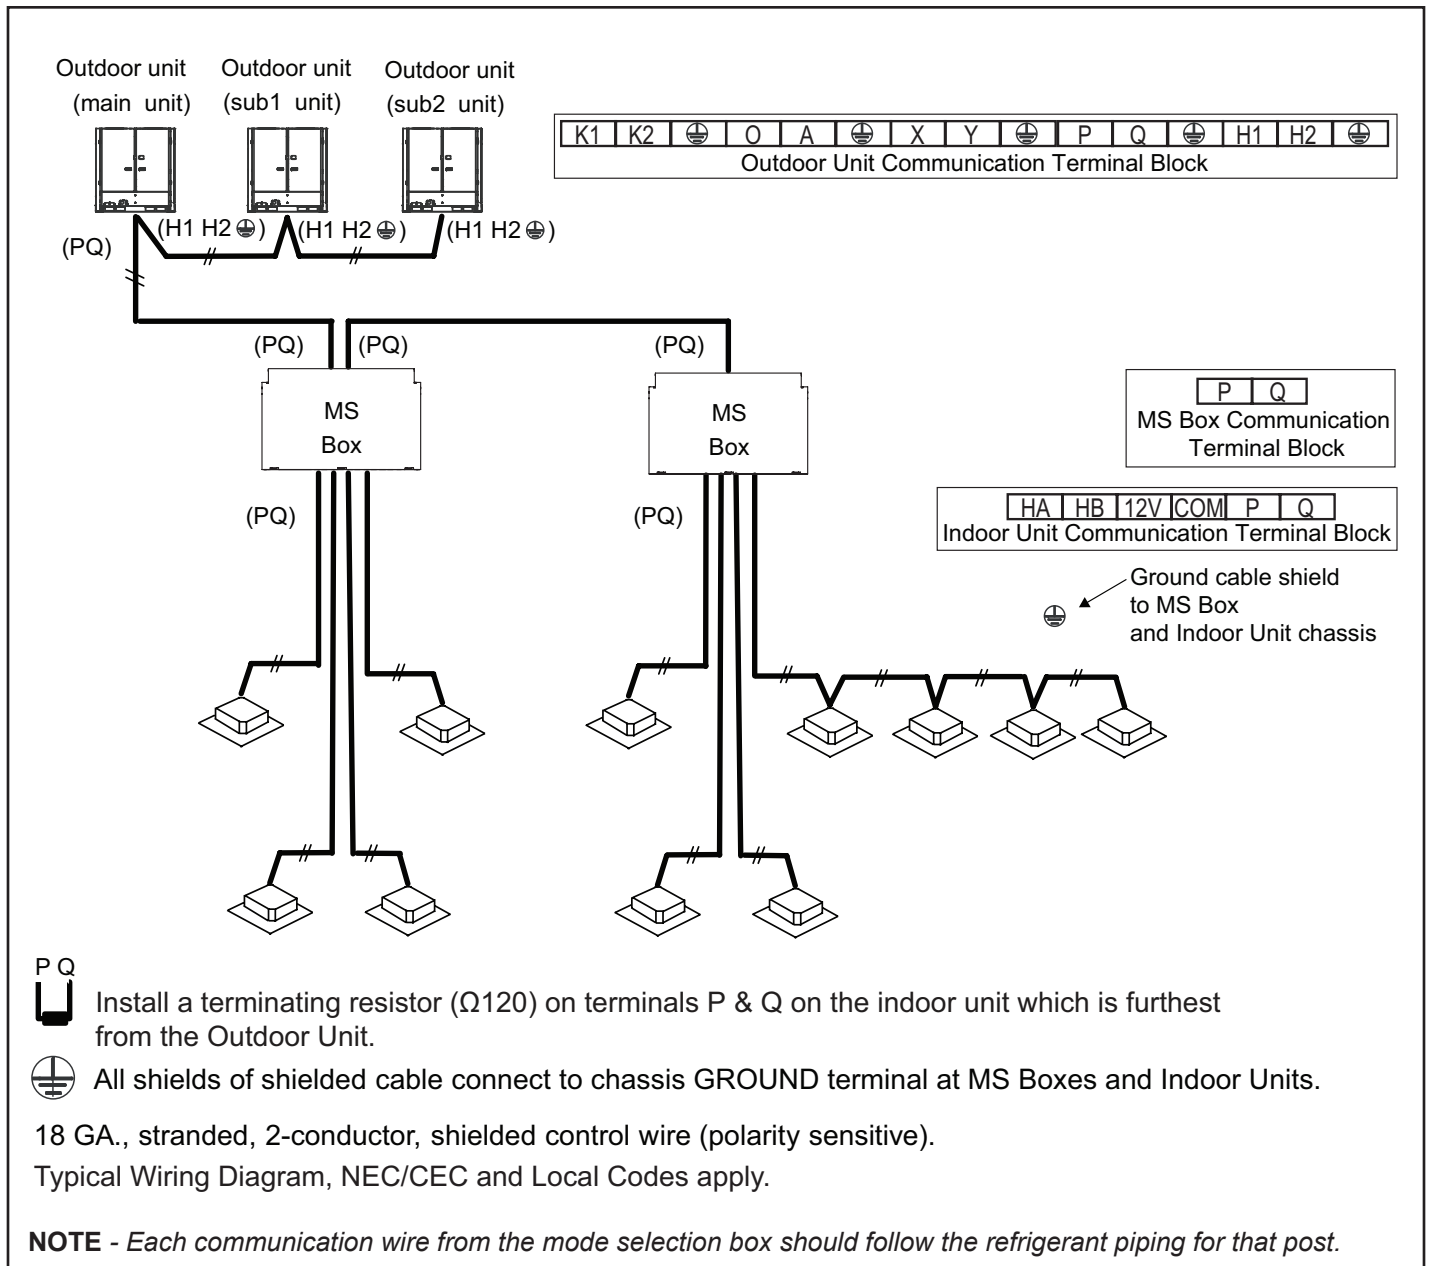

Figure 13. Typical Communication Wiring Diagram (VRF Heat Recovery System)
7. If the indoor unit is the final unit in a group that is wired in series, install the provided resistor across terminals P and Q. See Figure 13 and 14.